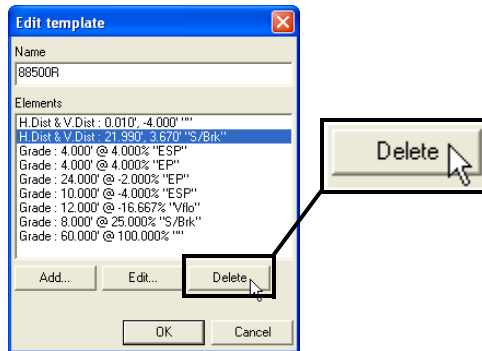

Figure 6-34. Delete Element
- To delete an element from a template, select the template and click **Edit**. Then select the element and click **Delete** (Figure 6-34 on page 6-30).